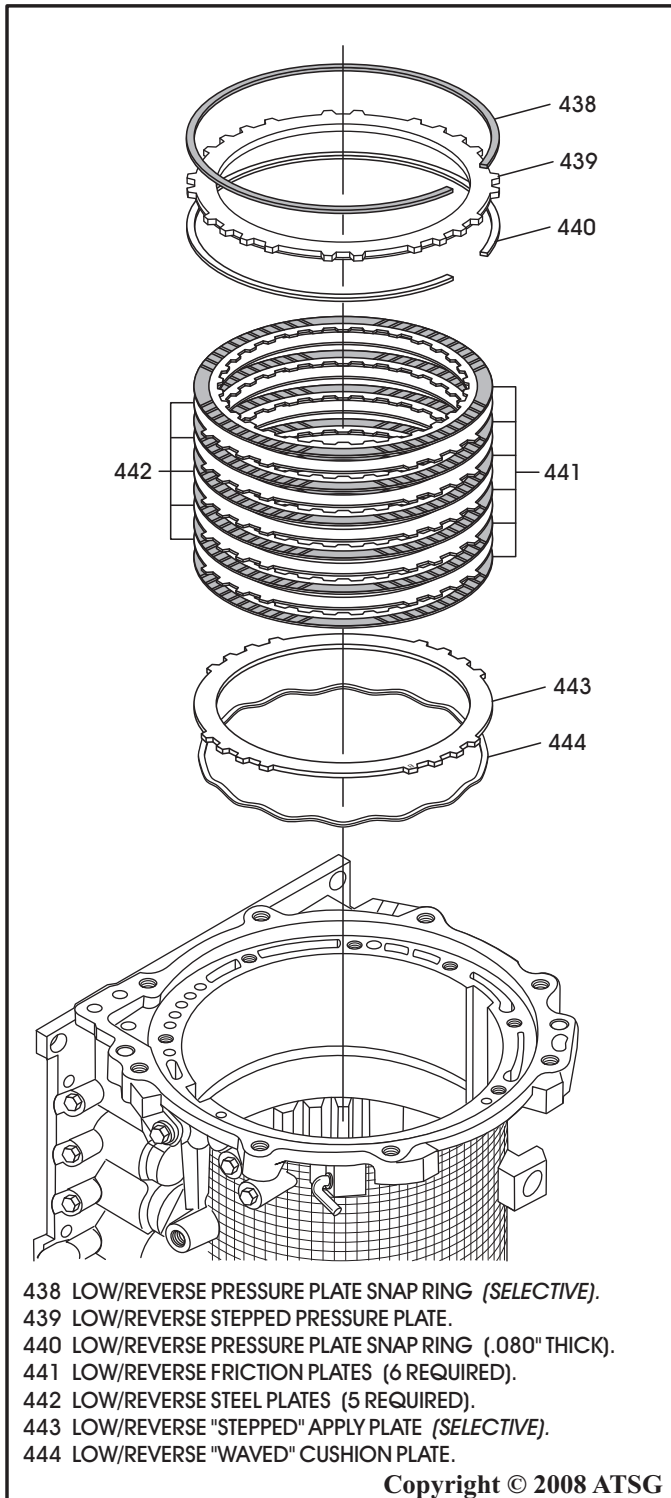

Figure 195
27. Install the low/reverse brake cushion plate, as shown in Figure 195.
28. Install low/reverse brake "stepped" selective apply plate, as shown in Figure 195, with the step facing down.
29. Install the low/reverse clutch plates beginning with a friction plate and alternating with steel plates, as shown in Figure 195.
30. Install the .080" thick snap ring into the case groove, as shown in Figure 195.
31. Now install the last friction, the pressure plate with the step facing down and the selective snap ring that you chose in Step 23. Refer to Figure 195.